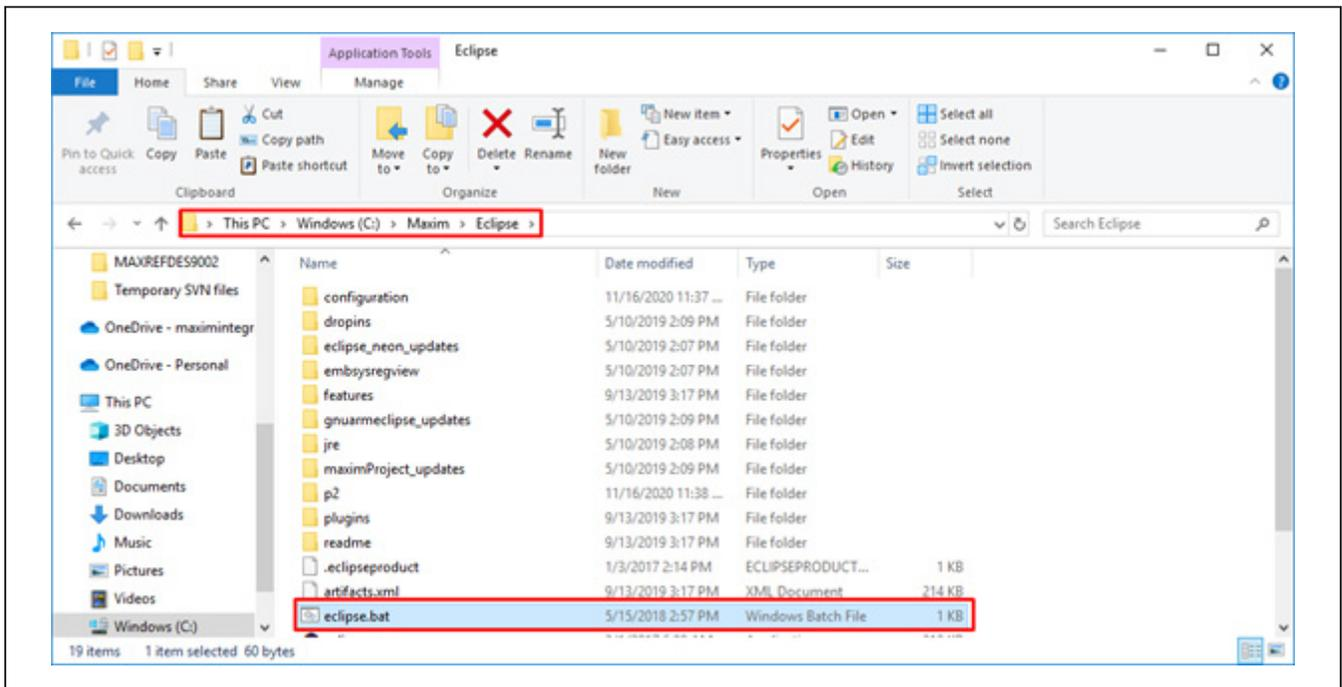

Figure 4. Eclipse launch location.
4) Navigate to the toolchain's install directory, open the Eclipse folder and run Eclipse.bat to launch the Eclipse IDE (Figure 4).